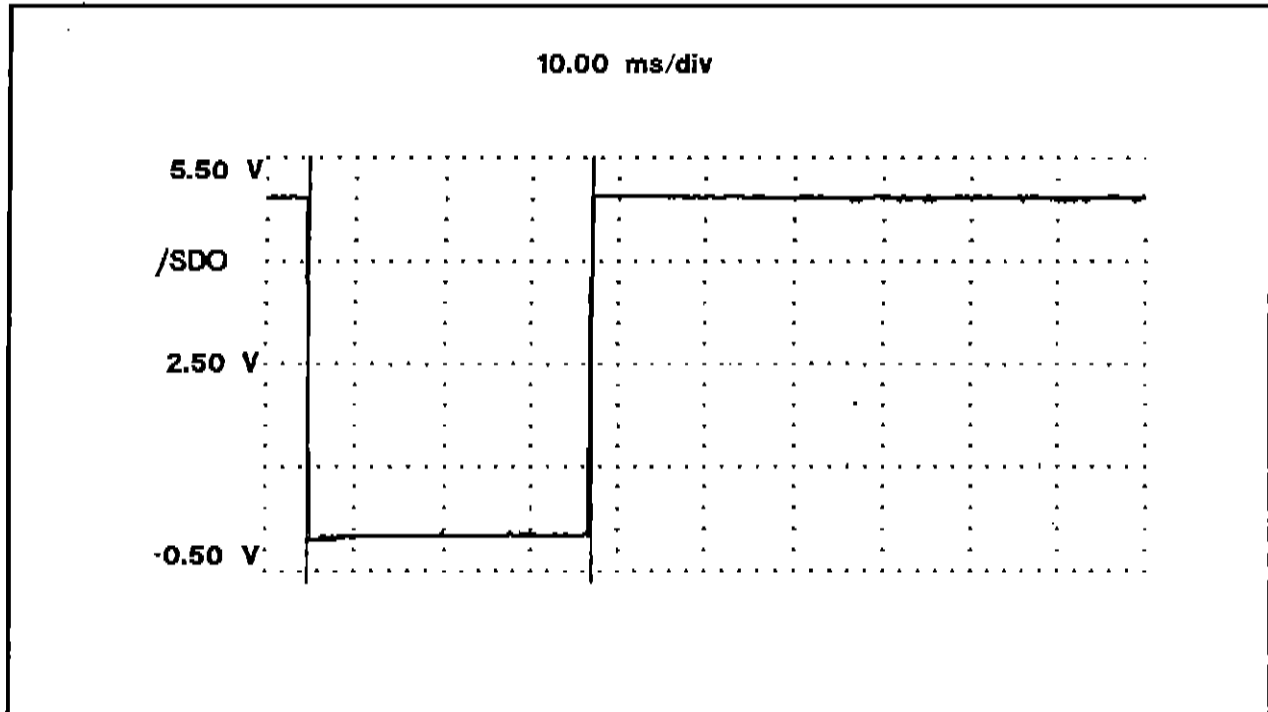

Figure 3-31. TEST 2 or COMMON 2 Scanner PCB /SDO Waveform.
13. Next observe TEST 2 Scanner PCB /SDO at U1-pin 10 while repeating the Relay Check utility and compare with Figure 3-31. If different, then troubleshoot U1-pin 10 (/SDO output), 1.A5.U1-pin 11 (/SDO input), and 1.A5.U2-pin 39 (Serial Data Out). If the /SDO signal appears to be shorted, then it may be necessary to troubleshoot off this PCB to either the Backplane PCB or the Digital PCB. Refer to the appropriate sections of this manual if needed.
22. Next observe the COMMON 2 Scanner PCB /SDO at U1-pin 10 while repeating the relay test and compare with Figure 3-31. If different, then troubleshoot U1-pin 10 (/SDO output), U1-pin 11 (SDO input), and U2-pin 39 (Serial Data Out). If the /SDO signal appears to be shorted, then it may be necessary to troubleshoot off this PCB to either the Backplane PCB or the Digital PCB. Refer to the appropriate sections of this manual if applicable.